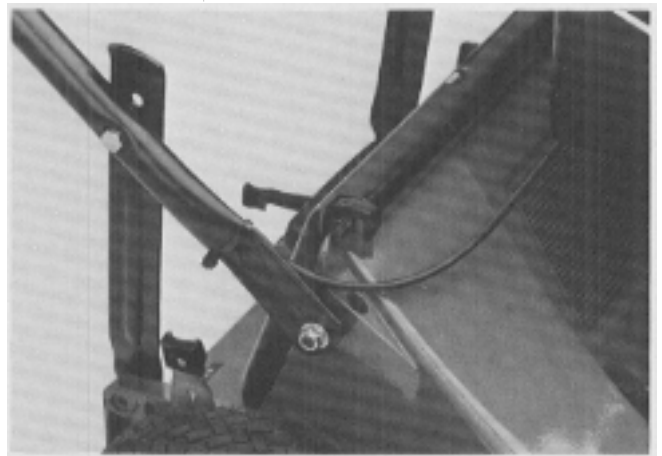

Figure 64
8. Secure the zone start cable to the handle with a cable tie. See Figure 64.